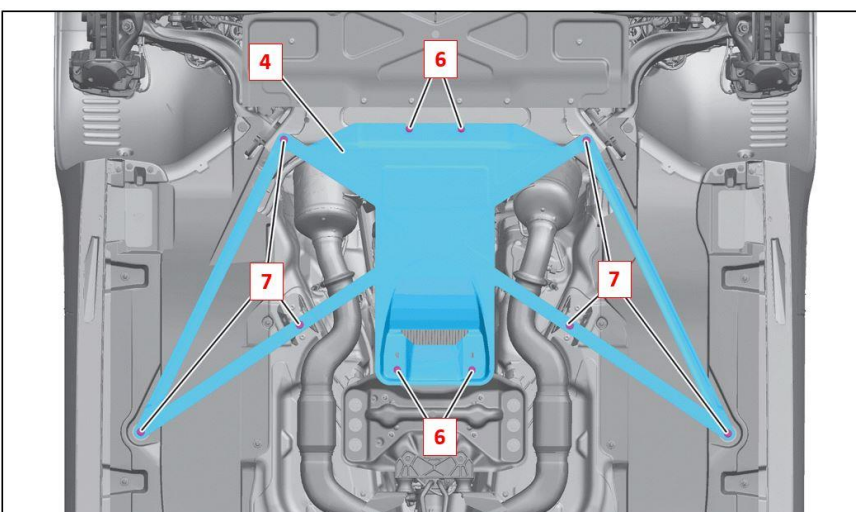

**Figure 2:** Check the contact points (3) in the area circled in red on the integral carrier (5) for white corrosion.
1. Check for **white corrosion** on the contact points (3, Figure 2) of the integral carrier (5, Figure 2) after the diagonal strut (4, Figure 2) is removed. If white corrosion is present:
- Take detailed informative **photos** of the areas affected by white corrosion on the integral carrier (5, Figure 2).
**i** **Do not reinstall** diagonal strut (4, Figure 2) **or carry out further measures without TIPS resolution.**